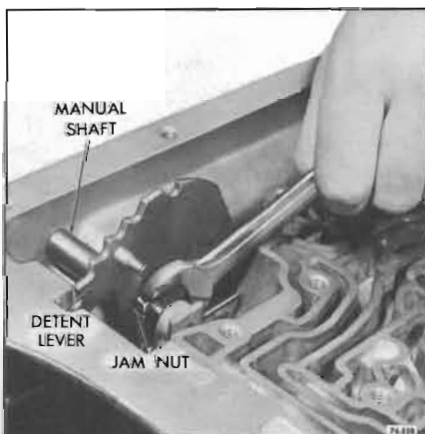

Figure 74-528
a. Unthread jam nut holding detent lever to manual shaft. See Figure 74-528.